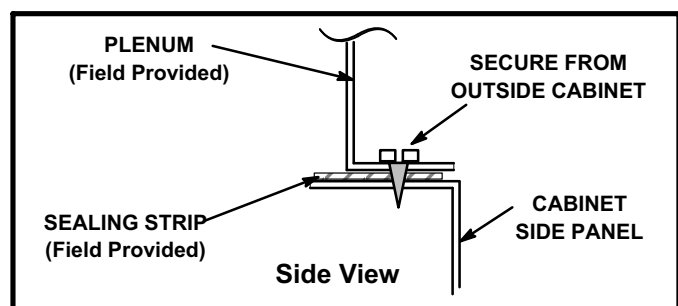

FIGURE 18
- 1 - Bottom edge of plenum should be flanged with a hemmed edge (See figure 18 or 19).